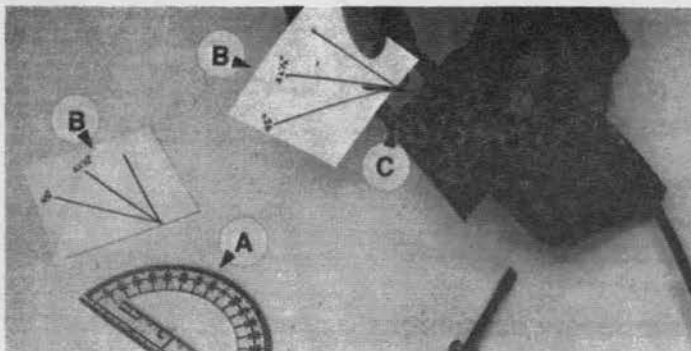

Fig. 4
There are a limited number of cuts requiring your saber saw to be tilted to either a 45 degree angle or a 22½ degree angle. The easy way to do this (since saber saws do not usually have an angle indicator) is to follow this procedure as in (**FIGURE 4**). Using a dime store protractor (A) mark the desired angle on a piece of cardboard, (B) and then use this to gauge your saw blade angle, (C). Your saber saw probably has a set screw which must be loosened in order to tilt the base, then reset the screw to maintain the angle as long as needed.